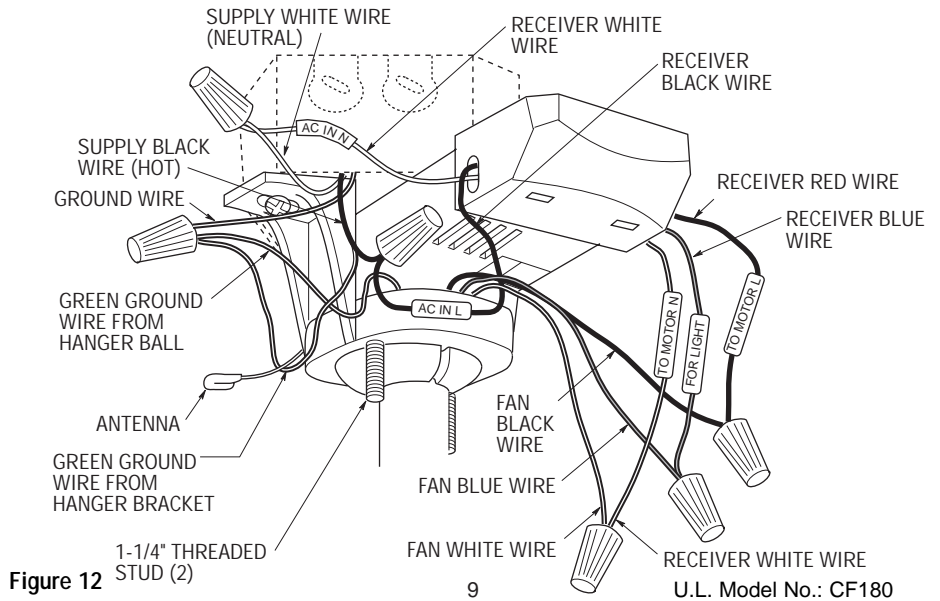

Figure 12
- 1. Position the supply wires to the left side of the outlet box (Figure 12); position the fan wires to the right side. Partially insert the remote control receiver (flat side up) until one end rests on the hanger ball as shown in Figure 12.
- 2. Refer to Figure 12 and 13 and connect the receiver wires to the supply wires and the fan motor wires as follows:
- 4. Screw the two 1-1/4" threaded studs (supplied) into the tapped holes in the hanger bracket (Figure 12).